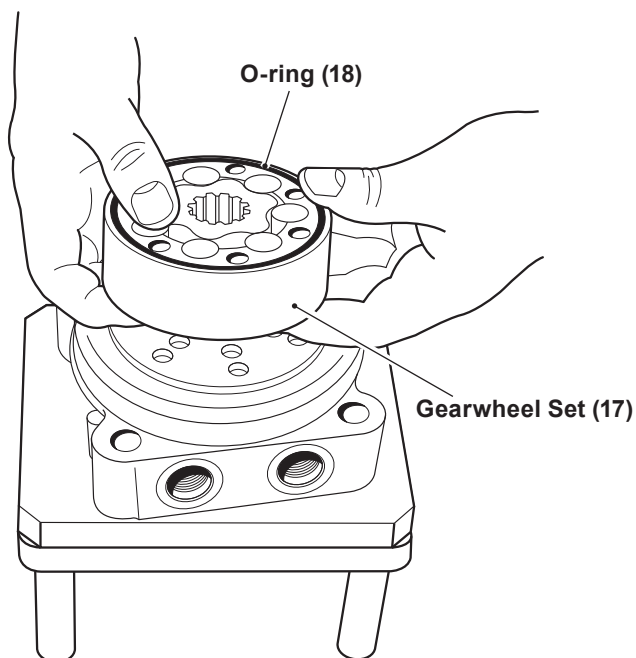

Figure 9, Gearwheel Set
1. Remove castellated nut (1), woodruff key (6), plastic plugs (8), retaining ring (2), seven screws (22), seven washers (23), and the end cover (19). See pages 5 and 6.
2. Remove the O-ring (18) and gearwheel set (17). Discard O-ring (18). See figure 9.
3. Remove second O-ring (16), under gearwheel set, and discard.